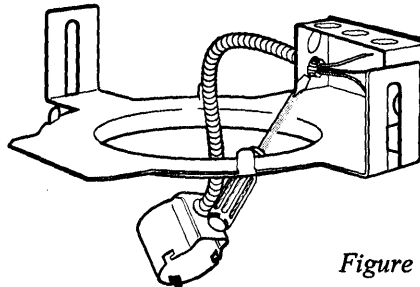

Figure 1
7. Using a screwdriver, disconnect the flex box connector by pushing in four tabs that secure it to the inside of the junction box. Remove the complete socket cup assembly from the fixture. **Refer to Figure 1.**